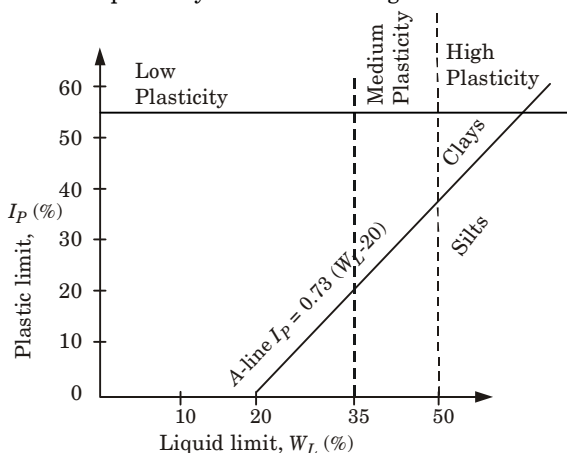

Fig. 1.30.1.
1. The plasticity index and the liquid limit can be used to classify fine-grained soil via plasticity chart shown in Fig. 1.30.1.
2. The line shown in Fig. 1.30.1 separates silts from clays.
3. In the plasticity chart, the liquid limit (LL) of a given soil determines its plasticity. Soils are classified on the bases of LL as follows :
4. To determine the state of a natural soil with an in-situ moisture content w , we can use the liquidity index (LI), defined as